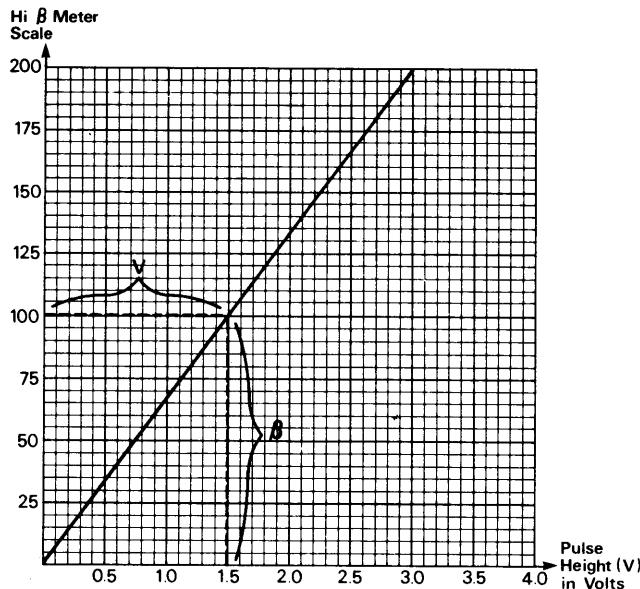

Fig. 11. Hi β calibration chart.
6. Using graph in Fig. 11, find the pulse height (V) (recorded in step 5), on the horizontal axis. Extend a vertical line from that point. The intersection of that line with the diagonal line when projected on the vertical axis should be the required "HI β " scale reading. Record this value "HI β CAL." If another value is on the "HI β " scale, unplug the Model 530 and remove the bottom panel to expose the printed circuit board. (Do not remove or upset test transistor connections and Model 530 control settings).
7. Plug the Model 530 into the power source. Turn TRANSISTOR BETA/FET gm switch (9) to the